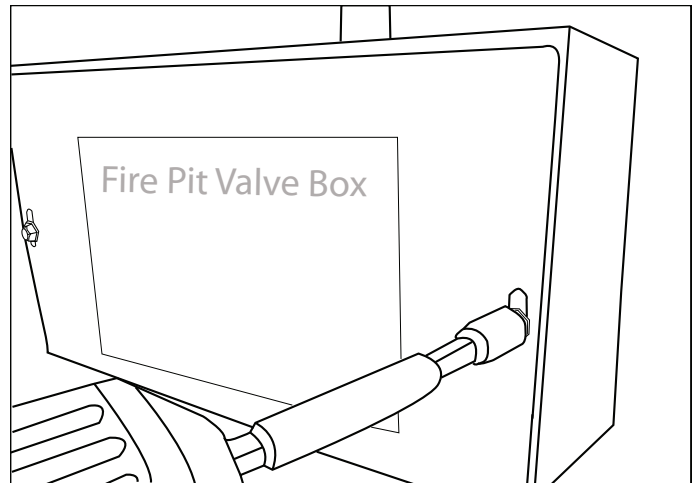

Fig. 9 Removing the cover from metal box.
1. Remove the two screws securing the cover on the control box (See fig. 9). The cover will slide down exposing the gas valve and control module.